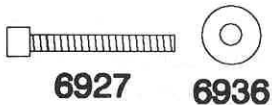

**Fig. 114**
□ **Fig. 114** Install a #6936 #4 washer and a #6295 4/40 nylock locking nut next. Do not overtighten the nut, it is only necessary for the nut to take up the end play. Now do the other shock.